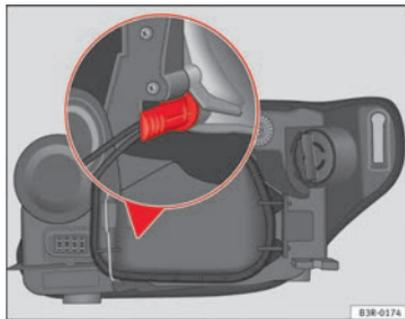

Fig. 202 Side lights. Bulb holder grip in vertical position
- Insert the bulb into the socket so that the side of the bulb holder grip is vertical ⇒ Fig. 202 and press on it.